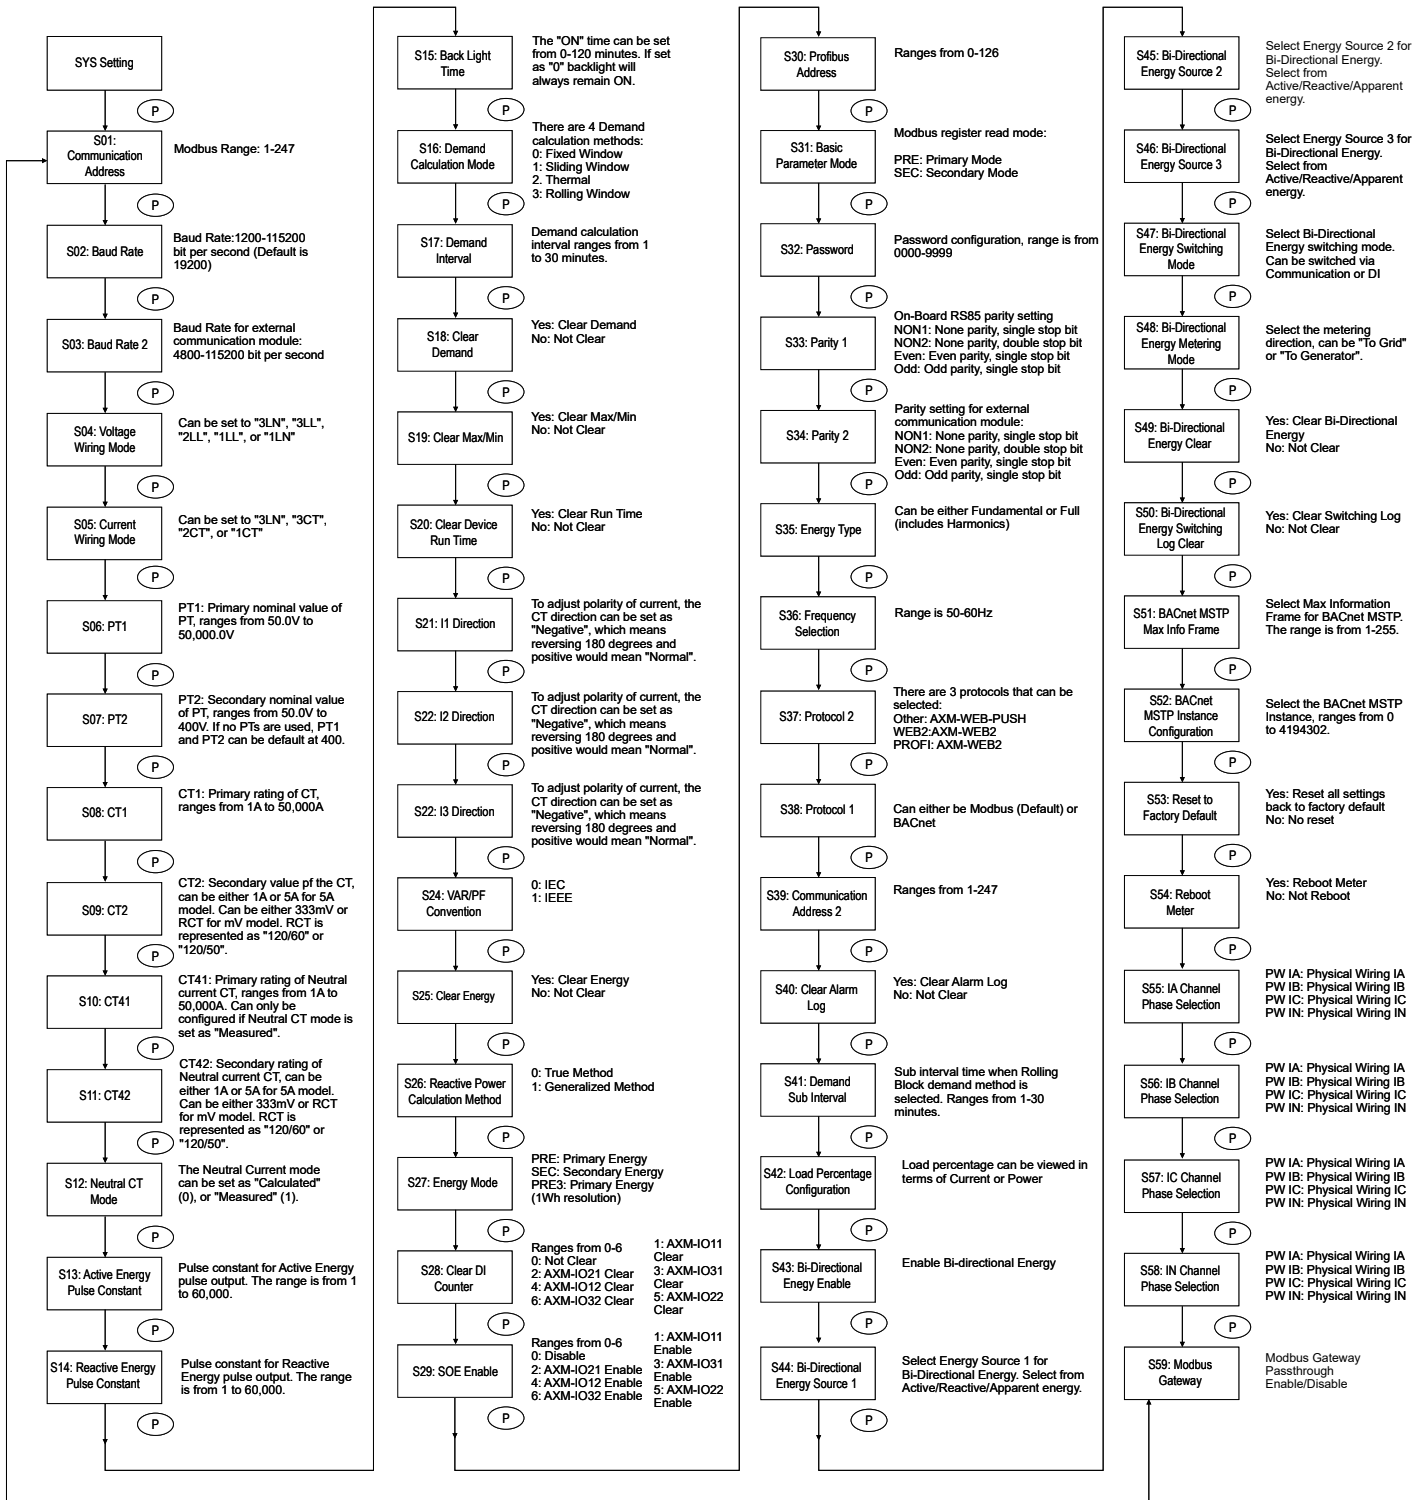

Figure 3-34 System Parameters Page Sequence
**NOTE:** Figures 3-34 to 3-37 show the rolling screen sequence using the P key. If you are using the E key for scrolling across the pages, the sequence direction will be reversed.